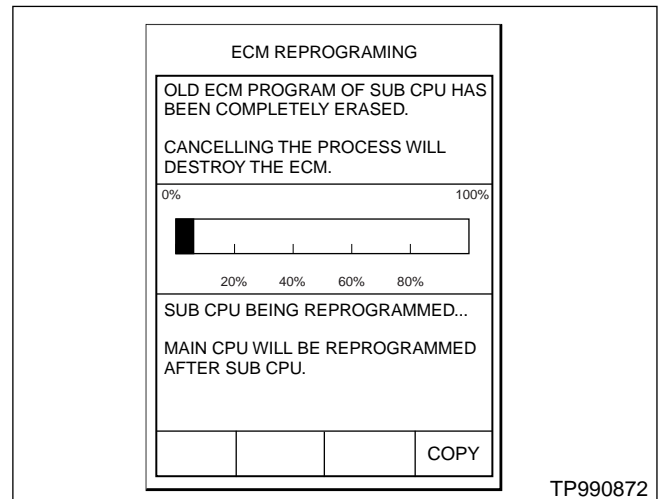

Figure 18
- After a few seconds, the window shown in Figure 18 will appear.